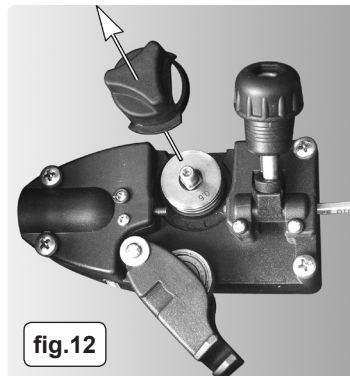
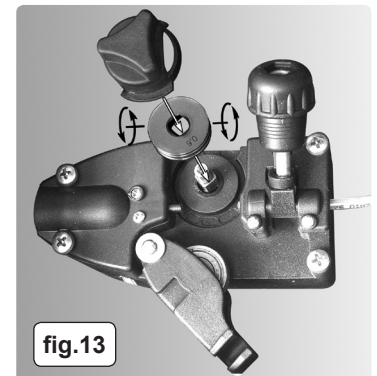

fig.12
fig.13
- 9.3.1 There are two grooves on the feed roller, 0.6mm and 0.8mm. Always have the groove that is being used on the outside of the roller (nearest to you). To turn the feed roller first loosen the wire tension knob and move it into its up position (see fig.11-1) then move the tensioning roller assembly to its down position (see fig.11-2). Take hold of the triangular knob on the roller retainer and rotate it 90° anticlockwise to release it as shown in fig.11-3. Now pull the roller retainer off the drive spindle to reveal the roller as shown in fig.12. Pull the roller off the drive spindle, flip it over and put it back on the drive spindle. (See fig.13) The groove size you require should now be visible printed on the face of the roller. Push the roller retainer back onto the drive spindle with the opening facing right. Ensure that the flanges at the base of the retainer, seat fully into the circular recess in the main moulding and then rotate the retainer through 90° to lock it in place.